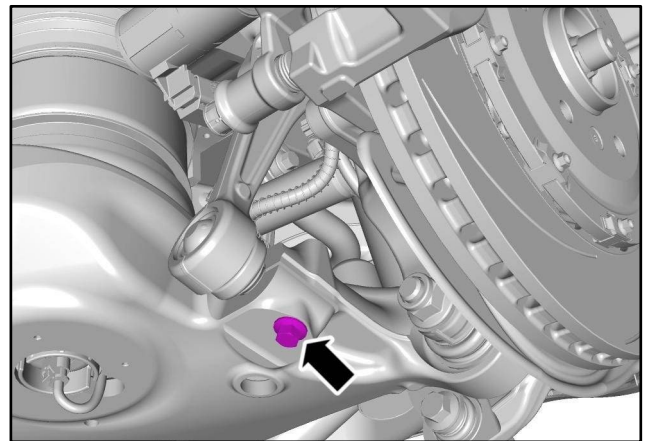

Figure 1
1. Remove the bolt that attaches the left-side rear torque reaction link to the rear suspension bottom arm and discard the bolt (refer to Figure 1).